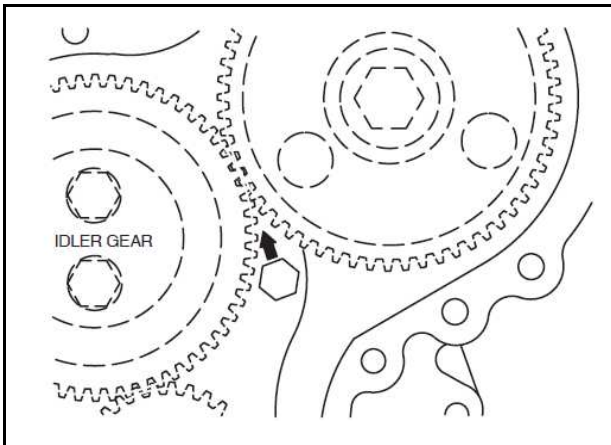

Fig.12-Installing Oil Nozzle
5. When re-installing oil nozzle, oil hole must be positioned at 45°angle, pointing towards idler gear, Fig.12.